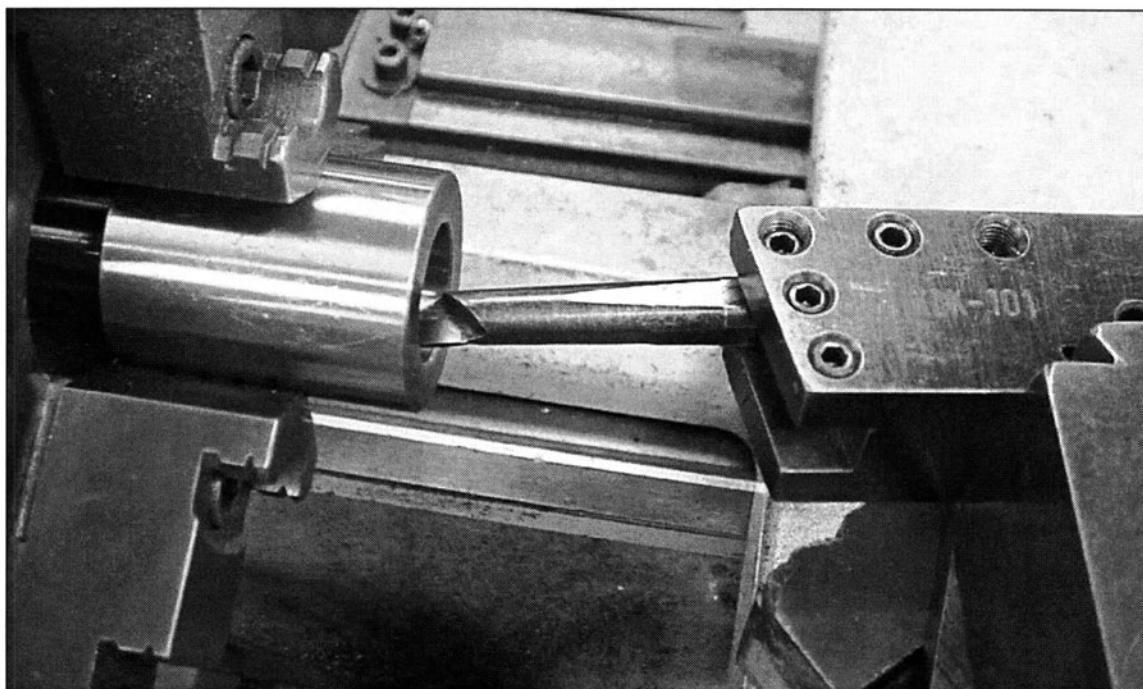

FIGURE 6-30 You can get more rigidity out of a lathe boring bar by angling it as much as possible.
42. Set boring bars at an angle in a lathe for increased rigidity. (See Fig. 6-30)